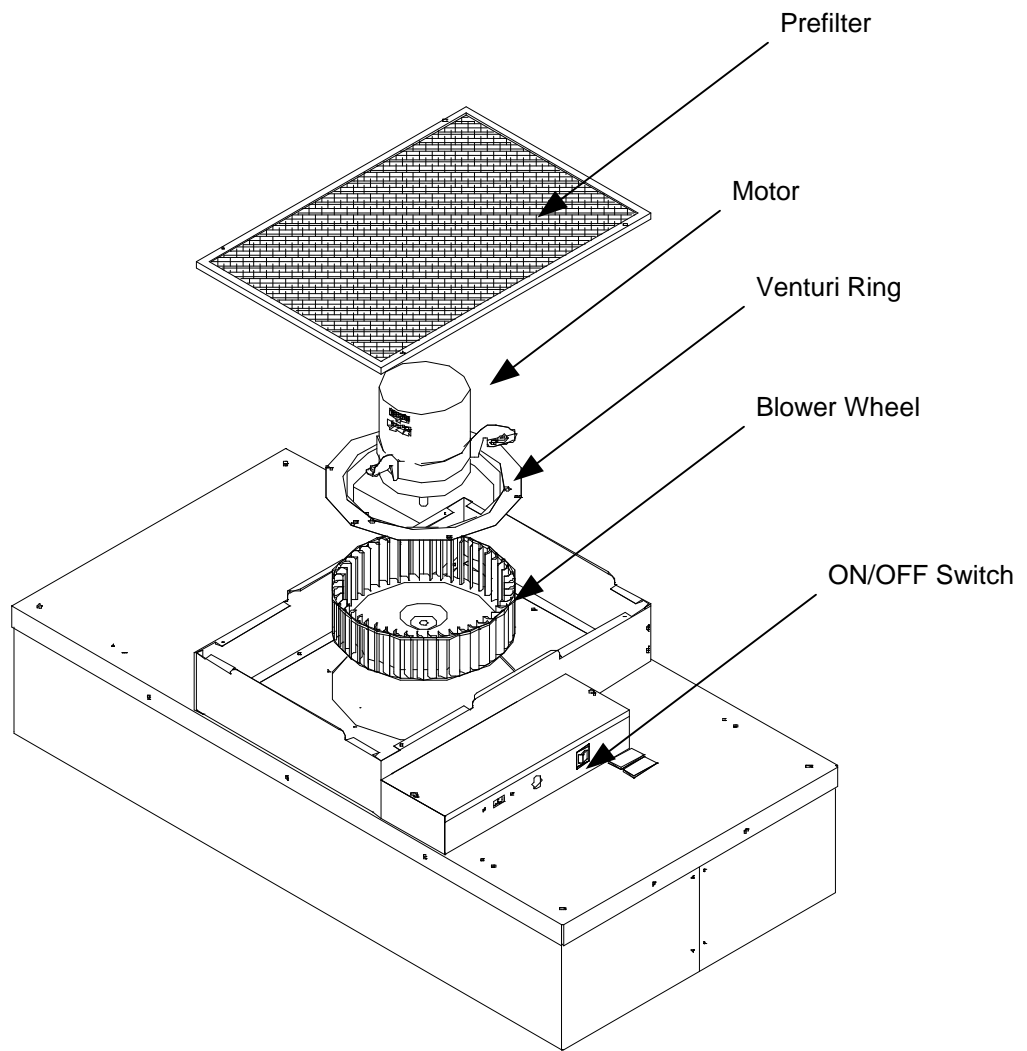

Figure 6 – Motor Replacement
- Step 4.** Loosen the electrical box cover screws (2), and slide/lift off cover. (Figure 6)
- Step 7.** Remove the six screws to free the venturi ring and remove the motor/blower assembly from the lid assembly. If using power drivers, set the unit to a low torque setting to avoid stripping the sheet metal screws. (See Figure 6)